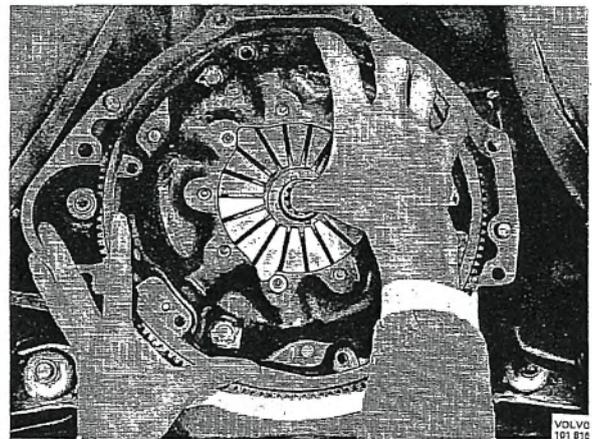

Fig. 4-4. Removing clutch
- Slacken the bolts holding the clutch to the flywheel by loosening them crosswise a couple of turns at a time to prevent warping. Remove the clutch and clutch plate. See Fig. 4-4.